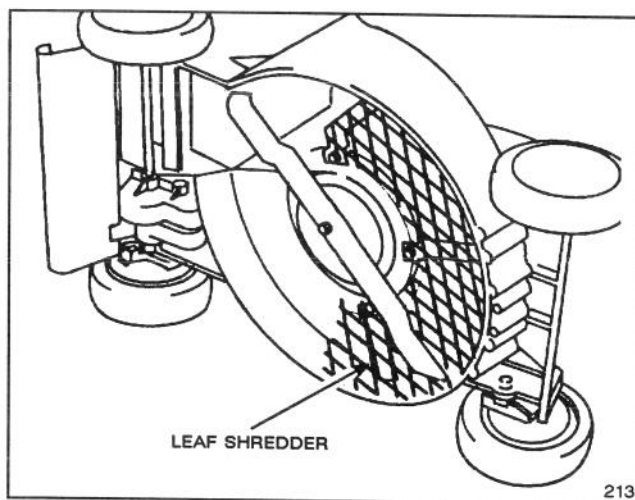

Figure 35
3. Leaf Shredder Kit, Model No. 59180—Installs on underside of mower in minutes without requiring removal of blade. Shreds leaves into small pieces for clean vacuuming into grass bag and convenient disposal (Fig. 35).